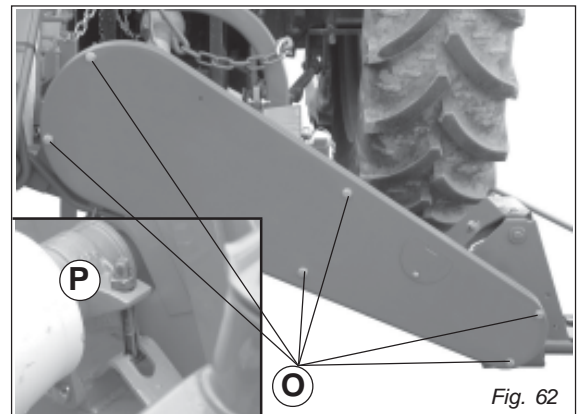

Fig. 62
- Unscrew the screws (O, Fig. 62) and remove the protective casing.
- Loosen the belt tensioner completely (P, Fig. 62).
- Put the protective casing back in position and fix it in place with the screws (O, Fig. 62).